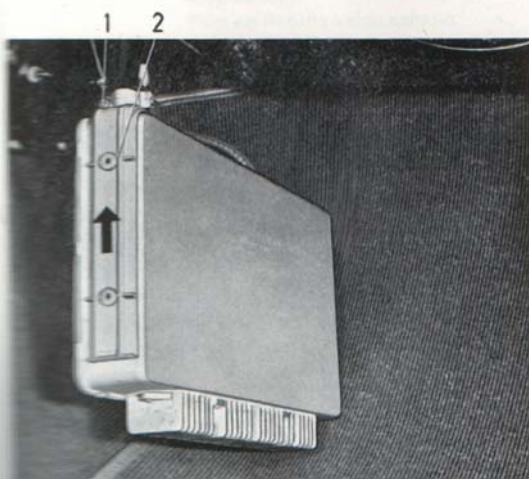

Fig. 2-38. Removing the control unit
3. Remove the screw (1, Fig. 2-38) for the cap holding the cable harness to the control unit.
4. Pull out the plastic cover strip (2, Fig. 2-38).